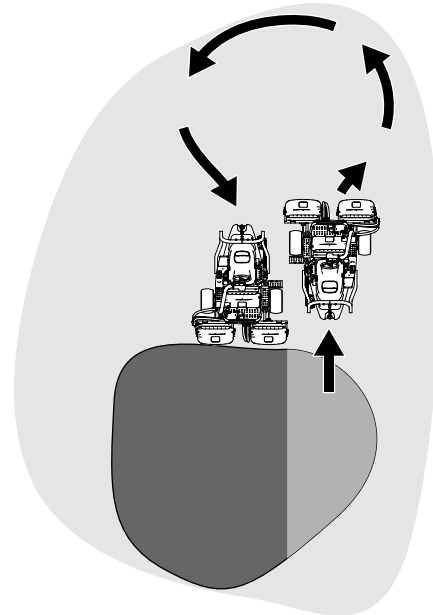

Figure 27
6. To cut down on operating time and to ease the lineup for the next pass, momentarily turn the machine in the opposite direction, then turn it in the direction of the uncut portion. This movement is a tear-shaped turn (Figure 27), which quickly lines the machine up for your next pass.